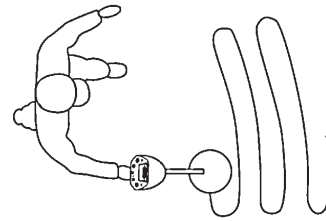

Figure 8
3. Sweep the Search Coil (27) slowly back and forth in an arc, keeping it about 1/2" to 2" from the ground. See Figure 8, above.